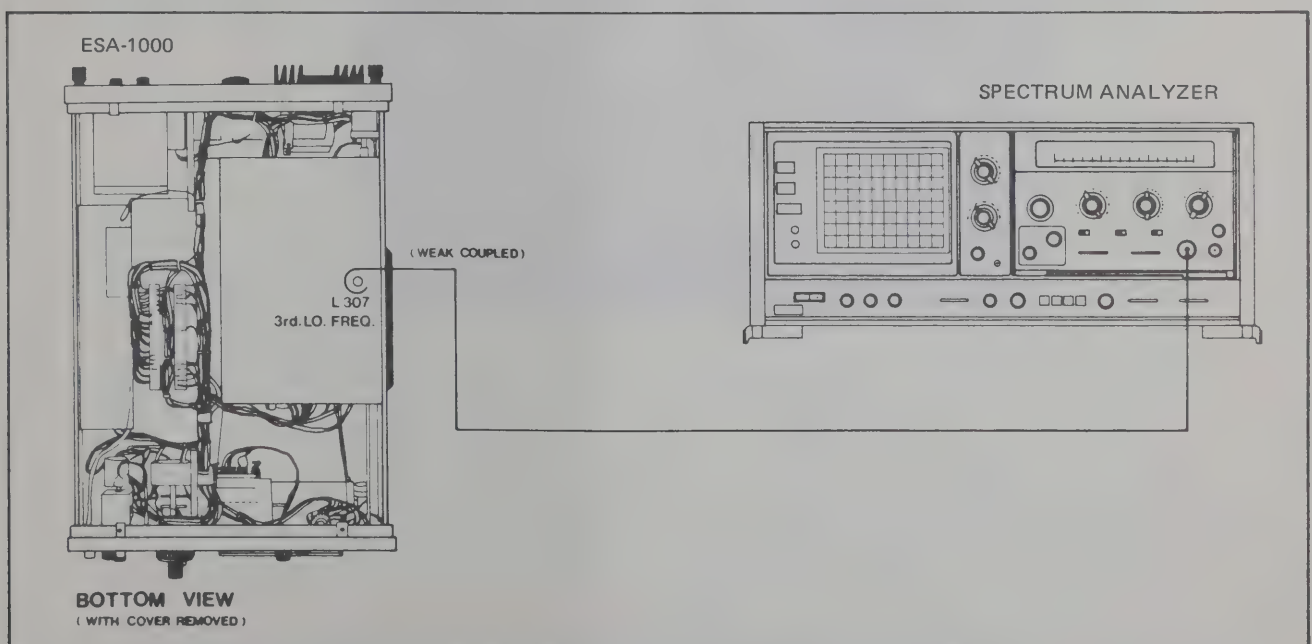

Figure 5.14 IF FILTER Adjustment Setup (Optional)
- Remove the cover over the IF FILTER board (SK030) and loosely couple by L307 to the Spectrum Analyzer (Figure 5.14). Adjust L307 so that the 3rd Local Oscillator frequency read by the Spectrum Analyzer is  $43.3 \text{ MHz} \pm 1 \text{ MHz}$ . If problems are suspected with the 3rd Local Oscillator, return the unit to the factory for repair.